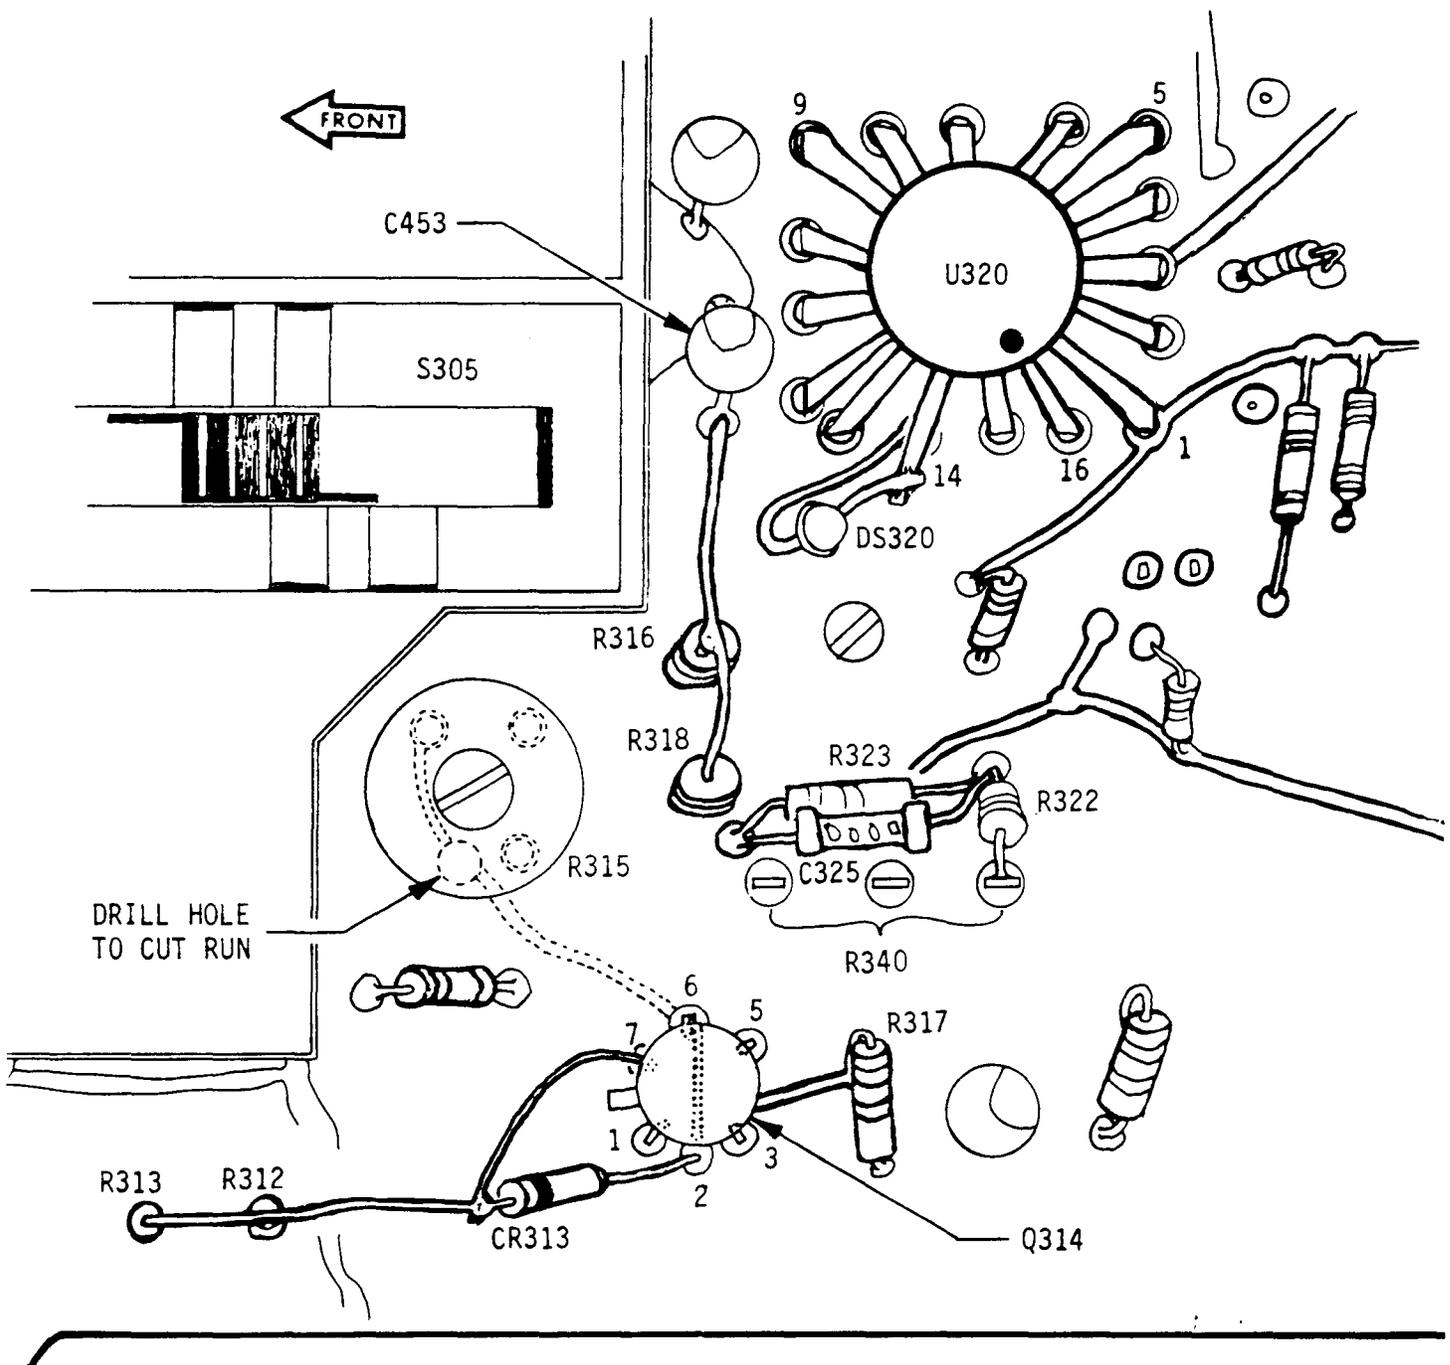

Fig. 1. Partial View - Front (Component Side) of Input Circuit Board.
Make the Following changes on the front (component side) of the Input circuit board. Refer to figures 1 and 2 while performing steps B-1 through B-21.
- ( ) 15. Trim the other lead of R318 to 5/8-inch in length. Bend it over parallel with the circuit board, then down to the closest (-5.6V) lead of C453, a 4.7 $\mu$ F tantalum capacitor. Solder this lead to the unconnected end of R316 and to C453 as shown in Fig. 1.